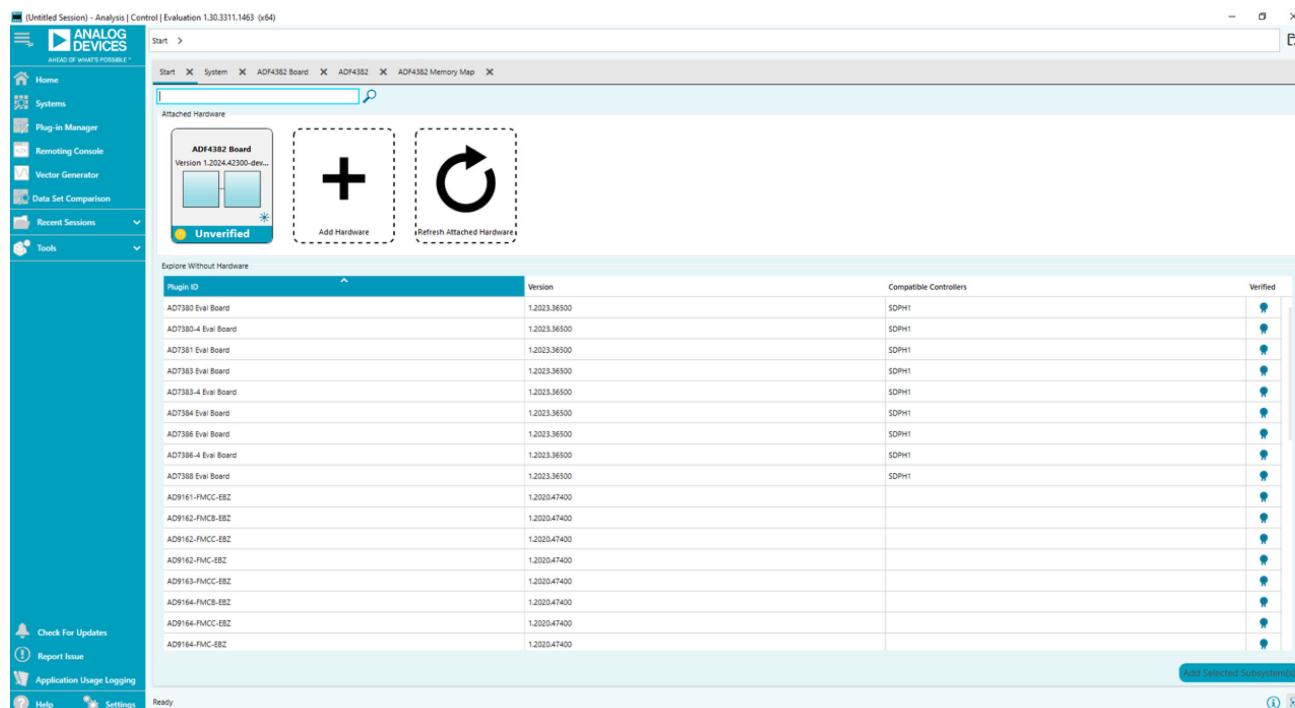

Figure 3. ACE Main Window, Attached Hardware (ADF4383 Evaluation Board)
1. Launch the **ACE Software**. With the **SDP-S** controller board connected to the EV-ADF4383SD1Z, the **Attached Hardware** section appears in the GUI, as shown in Figure 3.